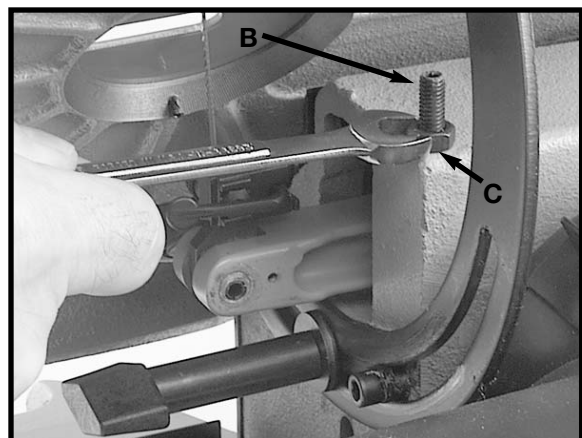

Fig. 22
3. If the table is not at 90° to the blade, adjust the table accordingly making certain screw (B) Fig. 22, contacts bottom of table surface when table is 90° to the blade. Screw (B) can be adjusted by loosening nut (C), turn screw (B) in or out the desired distance and tighten nut (C).